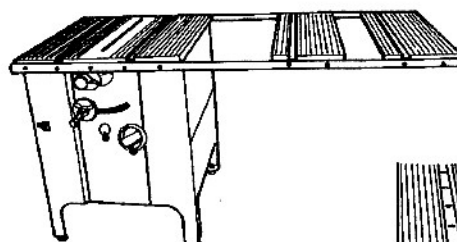

Fig. A-26
29. To install the remaining three screws, repeat Steps 27 and 28. Finger tighten only. Fig. A-26 shows the middle fixed extension table installed.